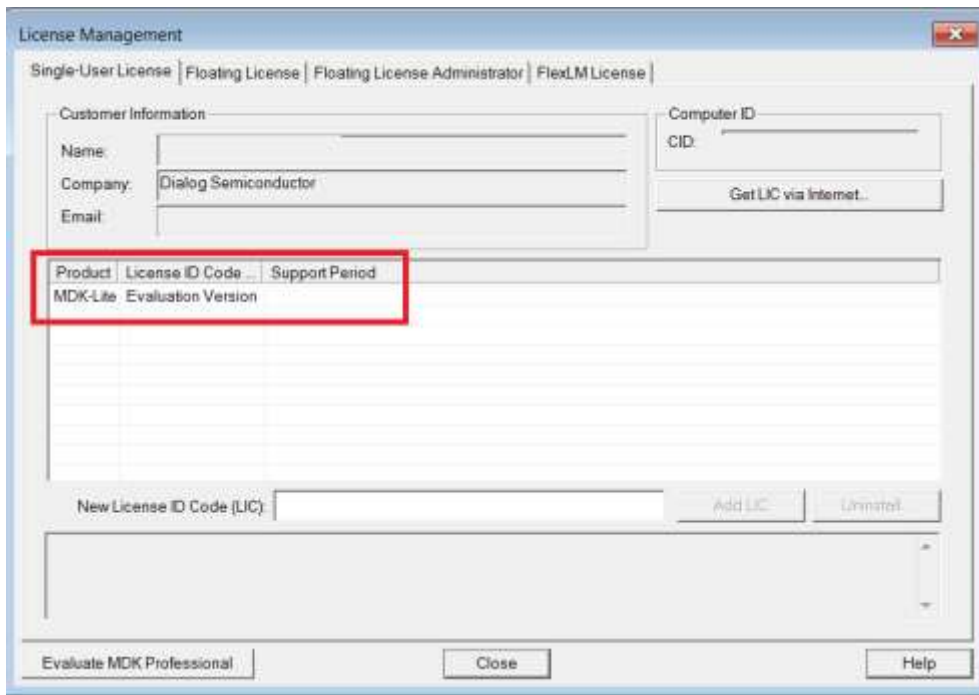

Figure 13: Keil Lite version
**Note:** The Keil development tools can be run as a Lite/Evaluation version without a product license, see Figure 13 (File > License Management). This Lite/Evaluation version has a 32 kB of code (in ROM) limitation.